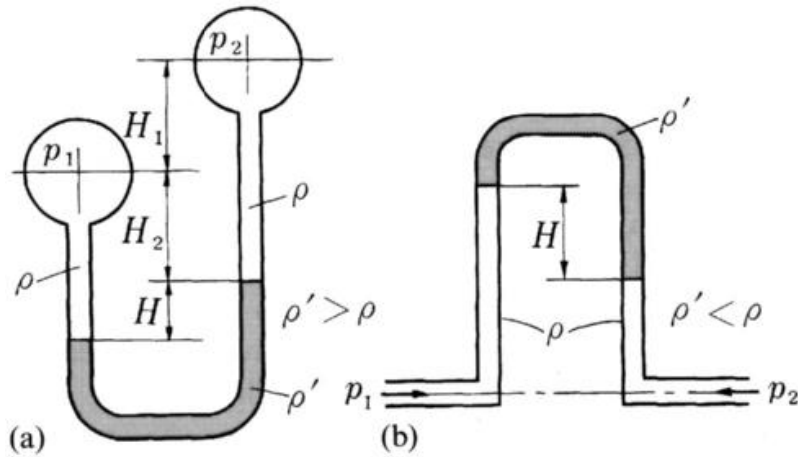

Fig. 3.23
3. Obtain the pressure difference  $p_1 - p_2$  in Figs 3.23(a) and (b).